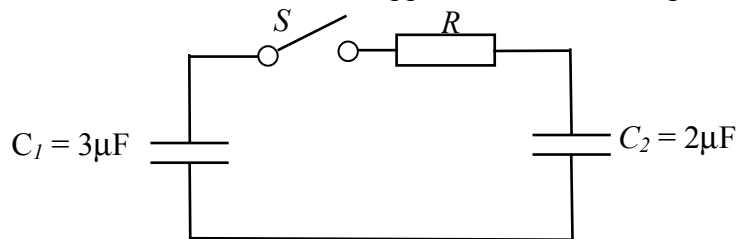

Figure 3.2
- b. In the circuit of Figure 3.2 the capacitor C_1 is initially charged to 100V and C_2 is completely discharged. Calculate the energy stored in the system before, and a long time after, the switch S is closed. What has happened to the 'missing' energy?